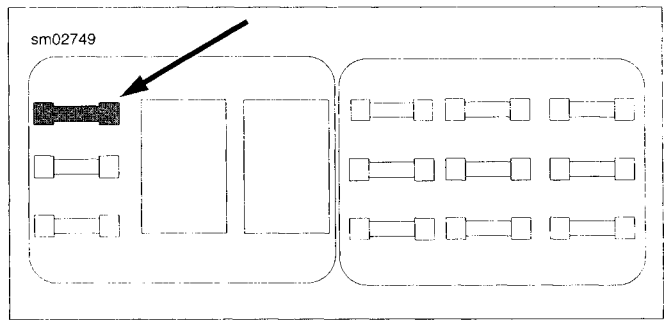

Figure 4-52. Fuel Pump Fuse: View from Top
See Figure 4-52. The fuel pump fuse is located under the seat. The fuel pump can be turned on with Digital Technician or by applying battery voltage to the fuel pump fuse.
- a. See Figure 4-52. Disconnect the fuel pump fuse from the main wiring harness.
7. See Figure 4-52. Install fuel pump fuse.